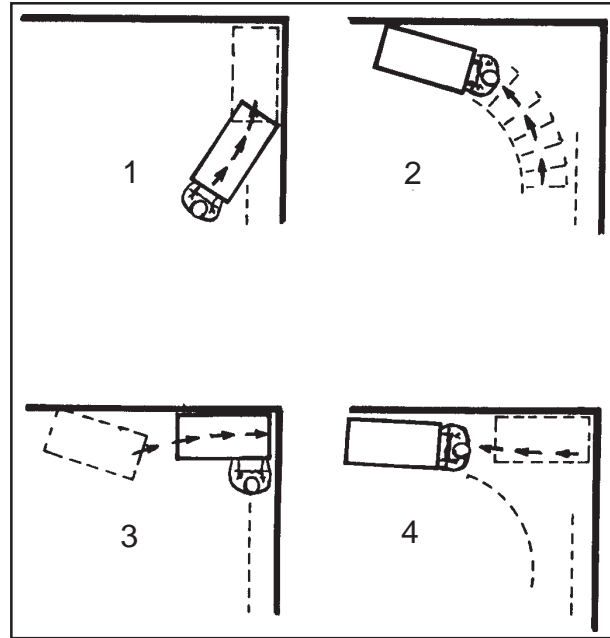

Figure 16
- When cleaning in a corner, raise the brush, maneuver the machine as illustrated in figure 16. Lower the recovery tool and proceed with cleaning.